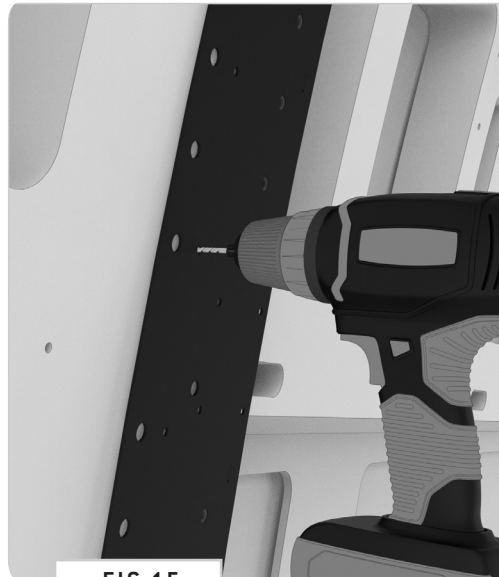

FIG 15
**5.2 Securing the Passenger Side Rear Bracket:** Double-check your measurements against your marks and proceed to secure the **Passenger Side Front Bracket** by drilling through all of the **Rivet Holes** with a **3/16"** or similar sized **Drill Bit** (**FIG 15**) and painting with a rust preventative paint.